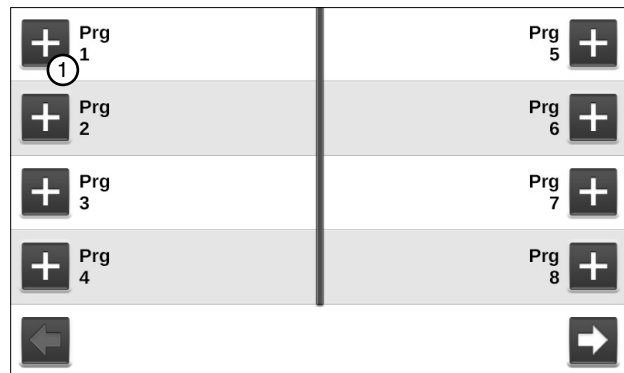

Figure 144-1 Sector Programs Screen
1. Push **Menu**, **Programs**, and **Sector Programs** to view the Sector Programs screen. Refer to Figure 144-1.